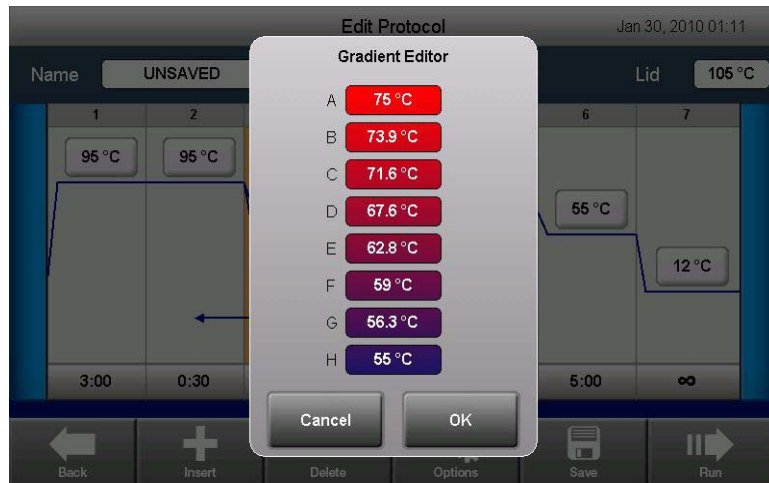

Figure 15. The gradient editor window.
- Once a step has a gradient, the upper and lower temperatures can be edited by touching either button and using the gradient editor window (Figure 15).